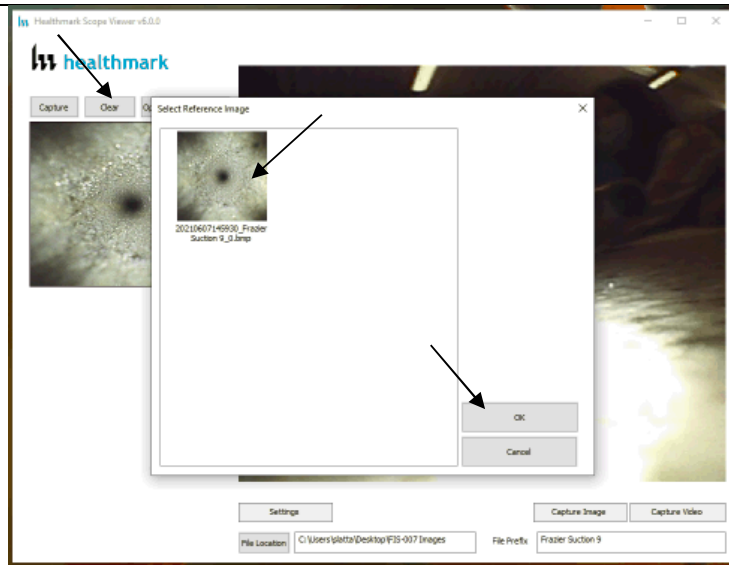

Figure 17
- b. Select the file you want to display (**Fig. 17 below**).
- c. Click the *OK* button to display the image in the *Reference Image Window*. (**Fig. 17**).